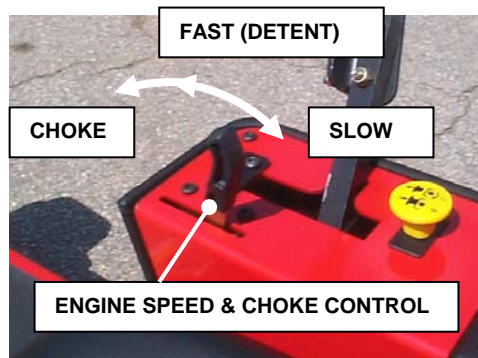

FIGURE 1.3
- 6. Move engine speed control fully forward to 'Choke' position. See Figure 1.3.